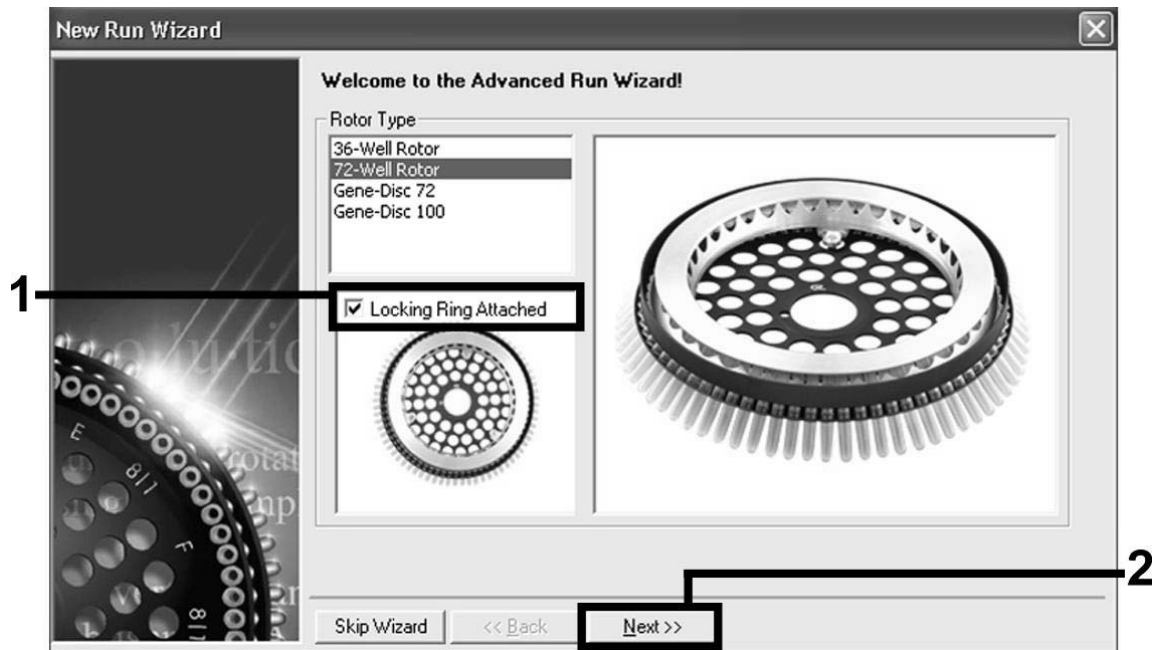

Figure 9. The “New Run Wizard” dialog box.
| Setting the general assay parameters | Figures 9–11 |
4. First, open the “New Run Wizard” dialog box (Figure 9). Check the “Locking Ring Attached” box and click “Next”.